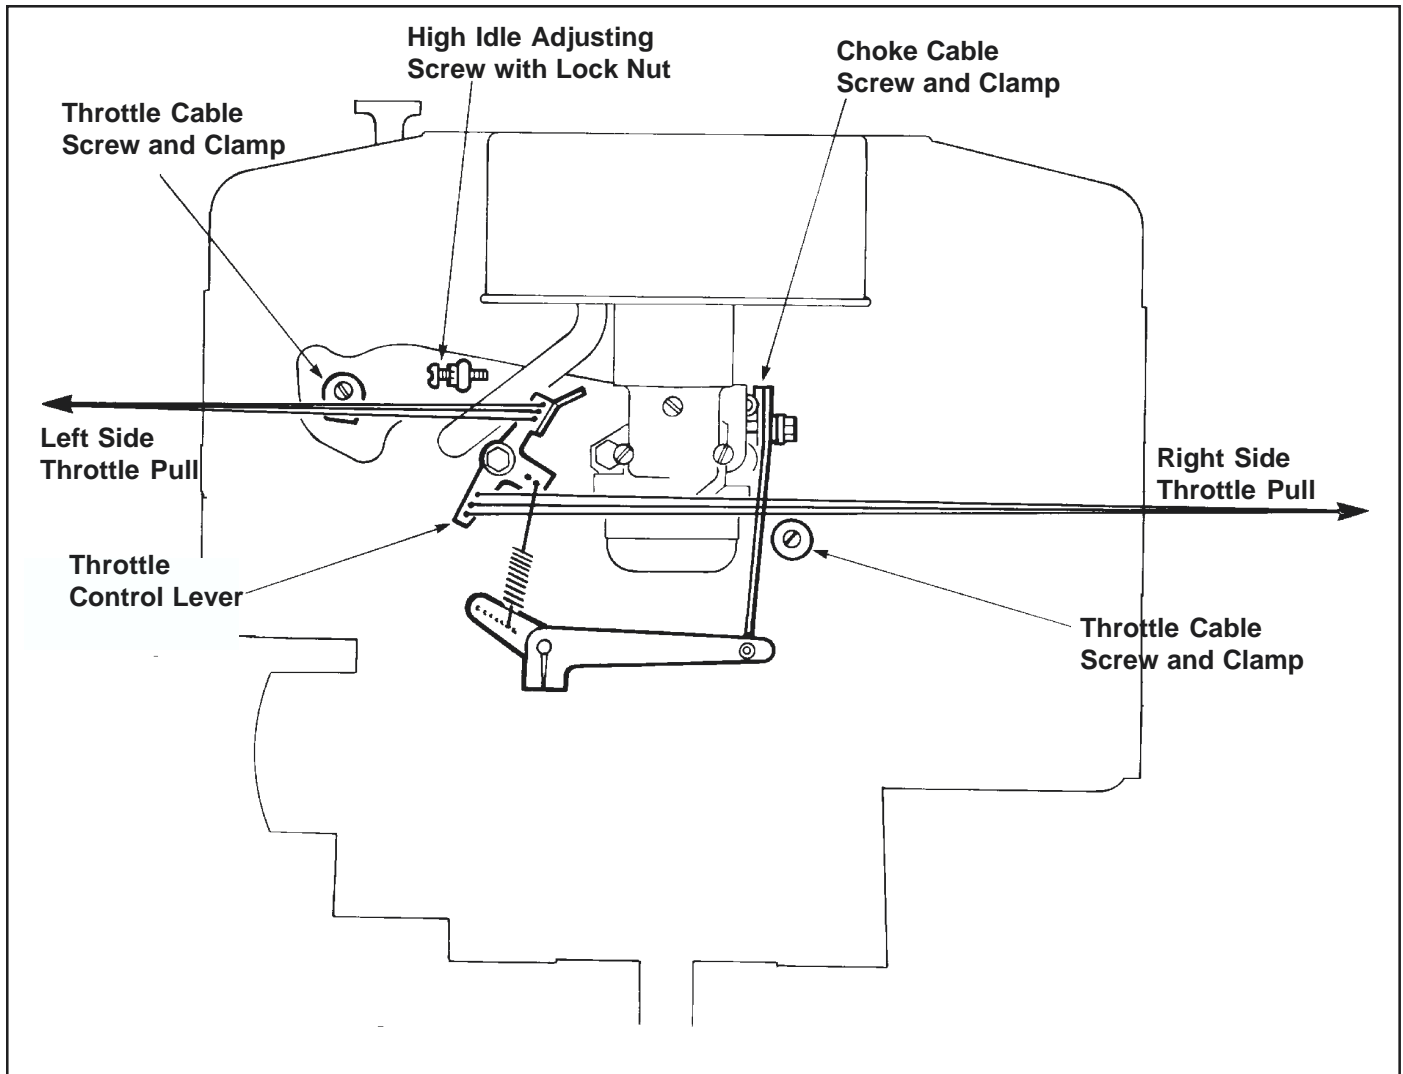

Figure 1. Magnum Twin Vertical Throttle and Choke Controls.
B. Choke Control (See Figure 1)